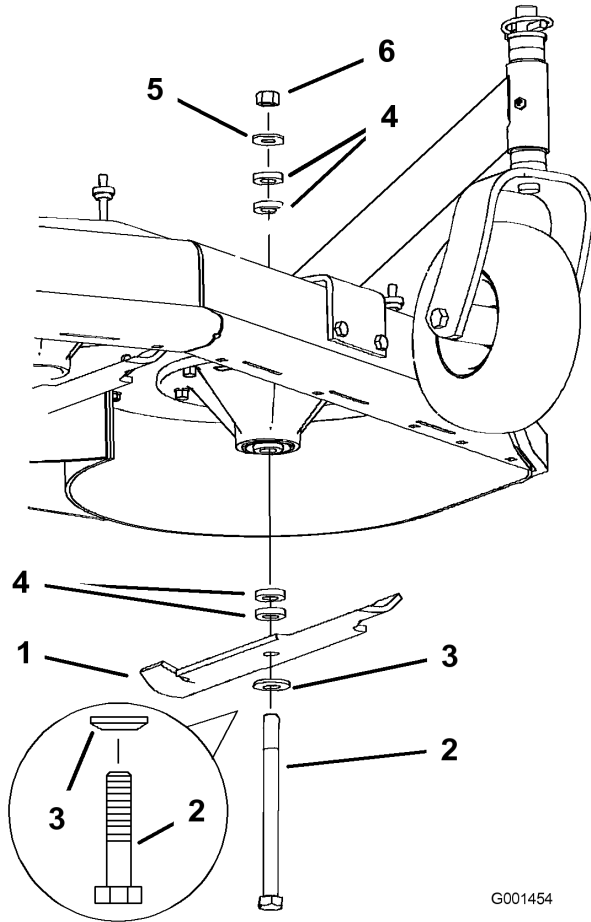

Figure 10
3. Hold the blade bolt and remove the nut (Figure 10).
4. Slide the bolt down through the spindle, and change the spacers as needed (Figure 10).
5. Install the bolt and curved washer, add extra spacer(s), and secure them with a thin washer and a nut (Figure 10).